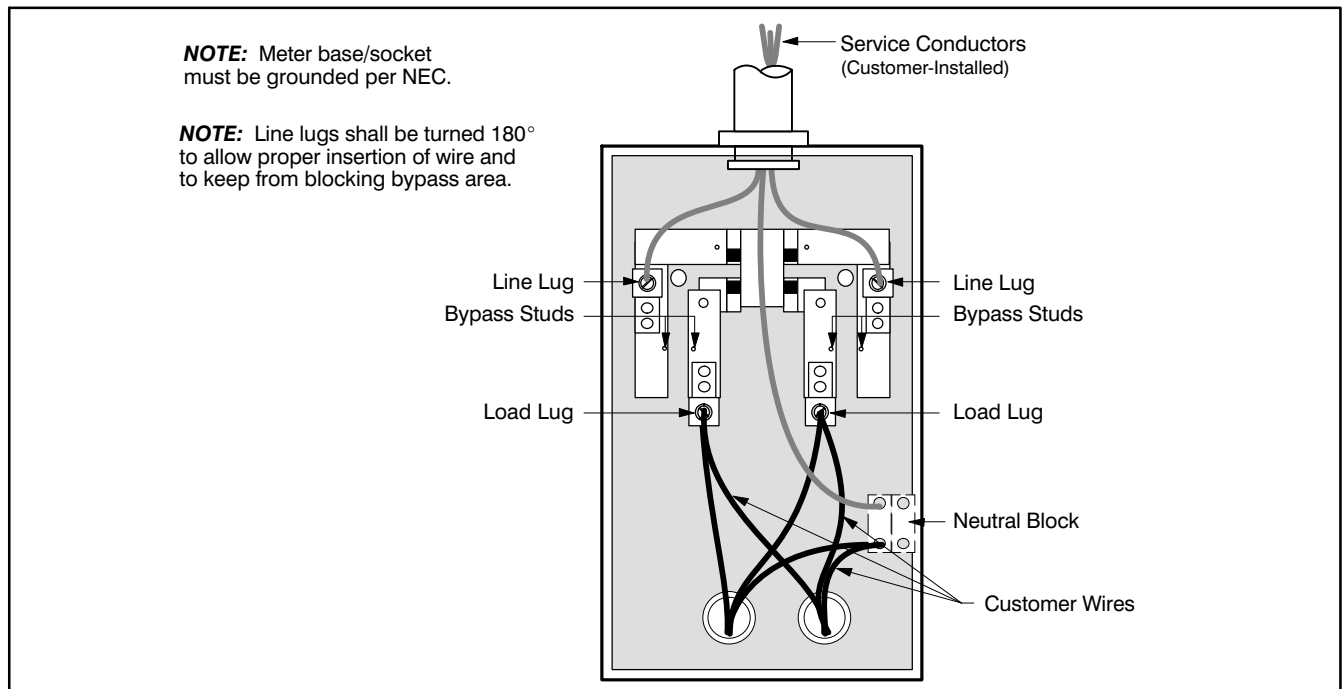

Figure 29 Typical arrangement of service conductors for overhead class 320 meter base/socket
- Contain four meter jaws and one connection point for the neutral conductor (see *Figure 29*).